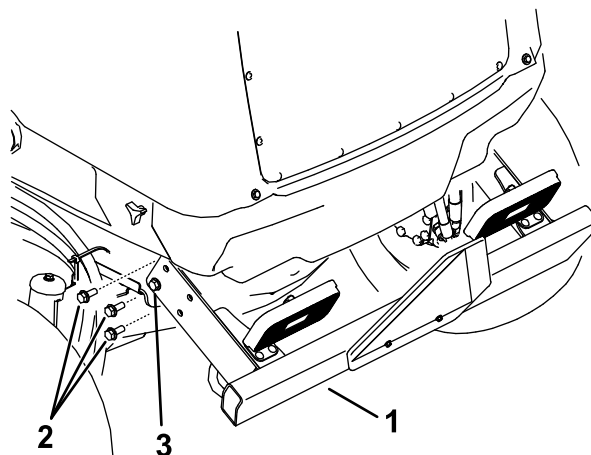

Figure 79
- Remove the three 3 flange screws from each side of the rear bumper as shown in Figure 79.
6. Raise the rear bumper into position and install the flange screws. Tighten all the flange screws securing the rear bumper to the frame (Figure 79).